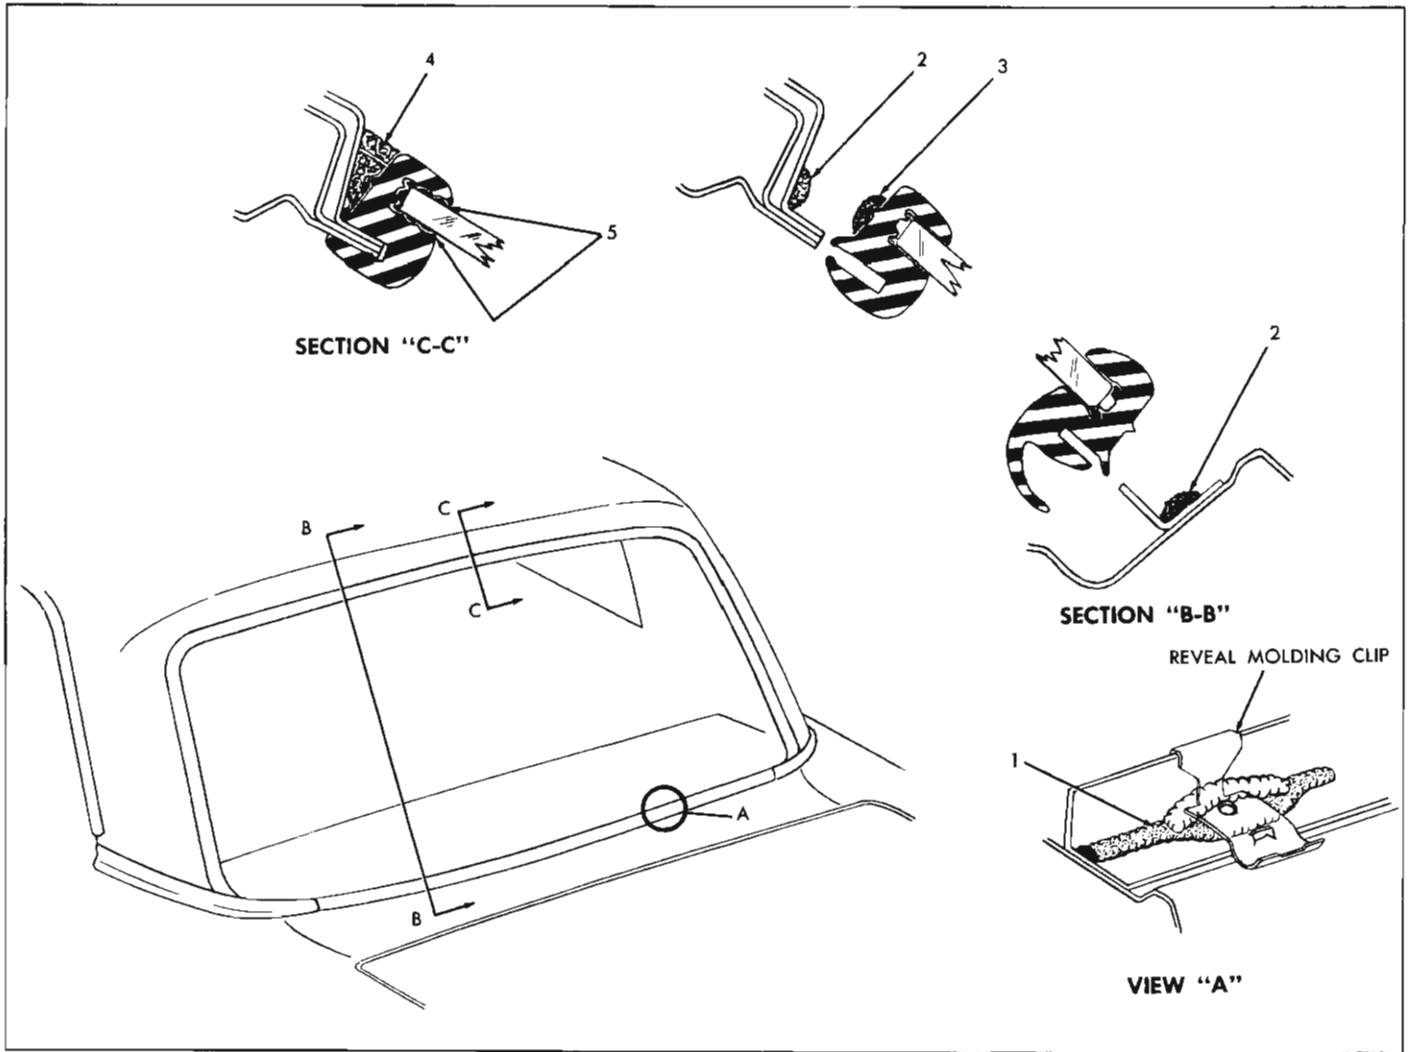

Fig. 33—Back Window Sealing
2. Check installation of reveal molding clips at pinchweld and retaining flanges and replace clips, where necessary. If replacing clips, apply medium-bodied sealer to opening rabbet, prior to installing clips. (See "1" in View "A", Figure 33).
3. Apply a continuous ribbon of medium-bodied sealer (approximately 1/2 inch wide by 1/4 inch thick) on wall of rabbet, completely around opening. (See "2" in Section "B-B", Figure 33).
5. Apply a continuous ribbon of medium-bodied sealer (approximately 1/2 inch wide by 1/4 inch thick) to base of rubber channel across top and down sides at opening. (See "3" in Section "B-B", Figure 33).
8. Using a pressure-type applicator, apply sufficient medium-bodied sealer to completely fill any openings between rubber channel and body completely around rubber channel. (See "4" in Section "C-C", Figure 33).
9. Using a pressure-type applicator (Pistol-type oiler) apply weatherstrip adhesive (black) between rubber channel and glass on inside and outside of glass around entire perimeter of glass (See "5" in Section "C-C", Figure 33). Application of adhesive should be continuous with no skips.